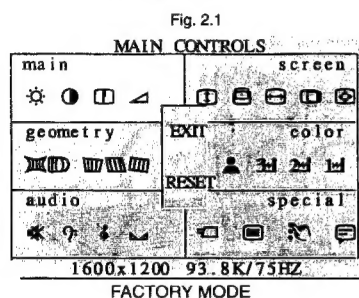

Fig. 2.2
Step 1: To select the character "FACTORY MODE" as shown in Fig. 2.1, press " " to access the OSD menu for R/G/B gain & cutoff as shown in Fig. 2.2.
- : Select the character "FACTORY MODE" to access the R/G/B adjustment as shown in Fig. 2.2 and Fig. 2.3.
7.5 : Select the 6500K colour temperature as shown in Fig. 2.2.
- 7.6 : Select the 5500K colour temperature as shown in Fig. 2.2.